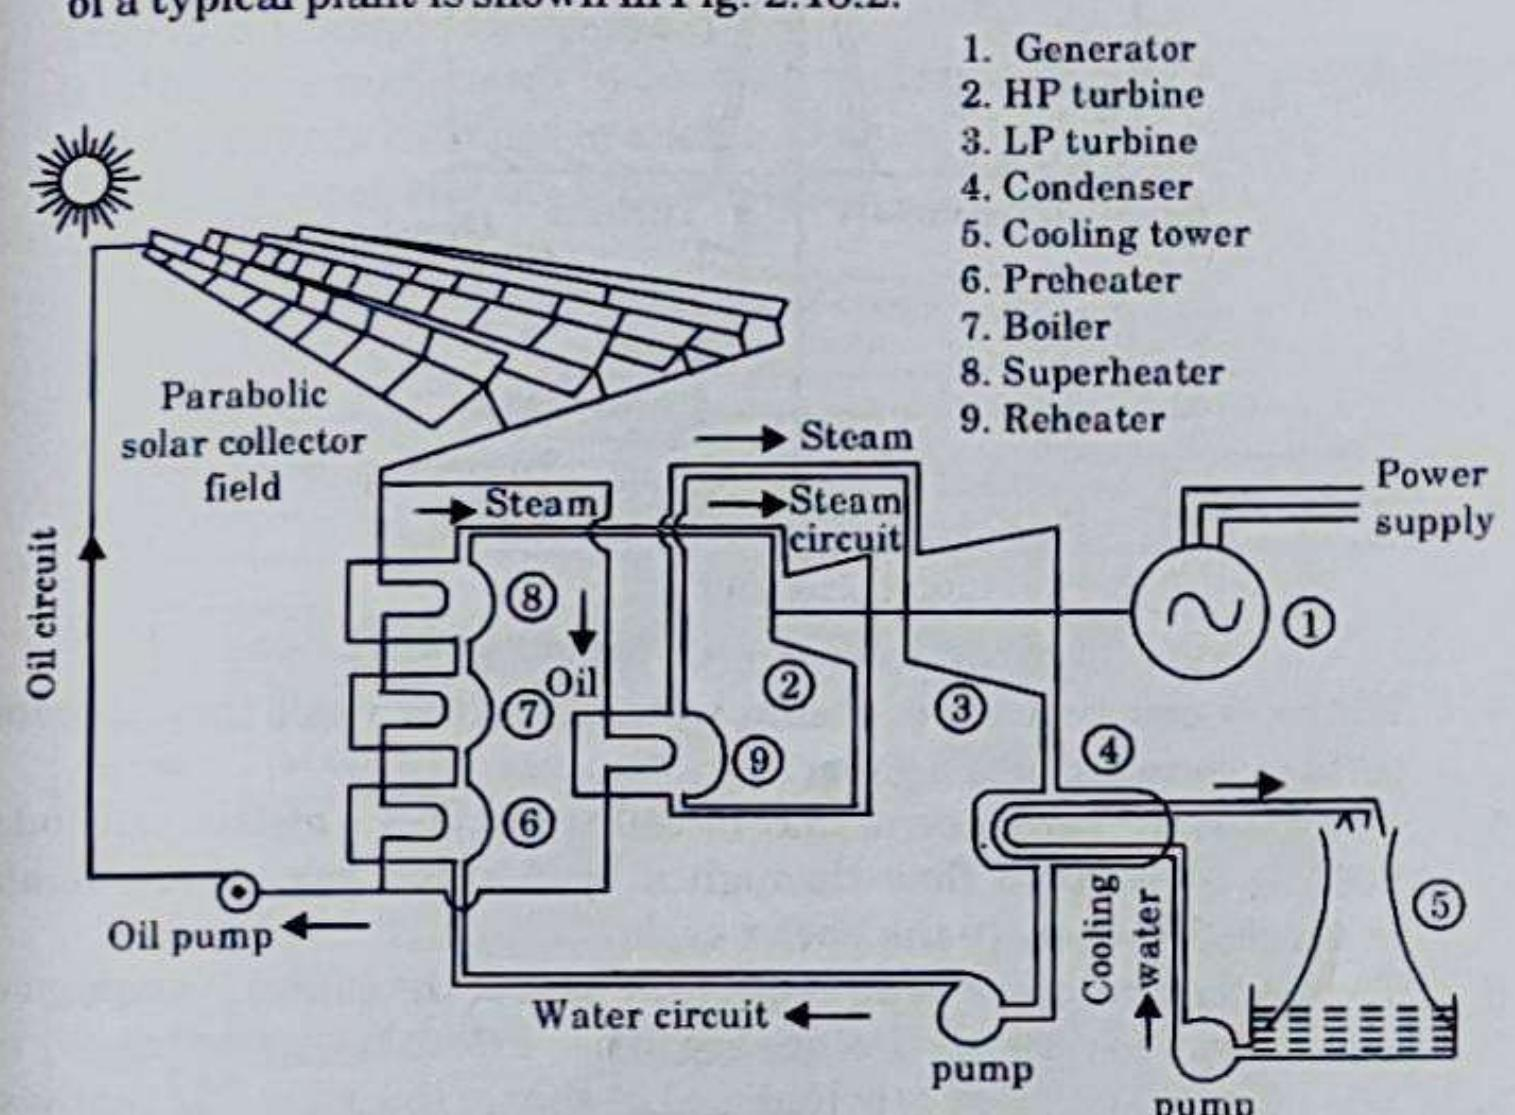

Fig. 2.18.2. Medium temperature solar power plant.
1. Solar thermal power plants operating on medium temperatures up to 400 °C use the line focusing parabolic collector for heating synthetic oil flowing in the absorber tube as shown in Fig. 2.18.2. A schematic diagram of a typical plant is shown in Fig. 2.18.2.